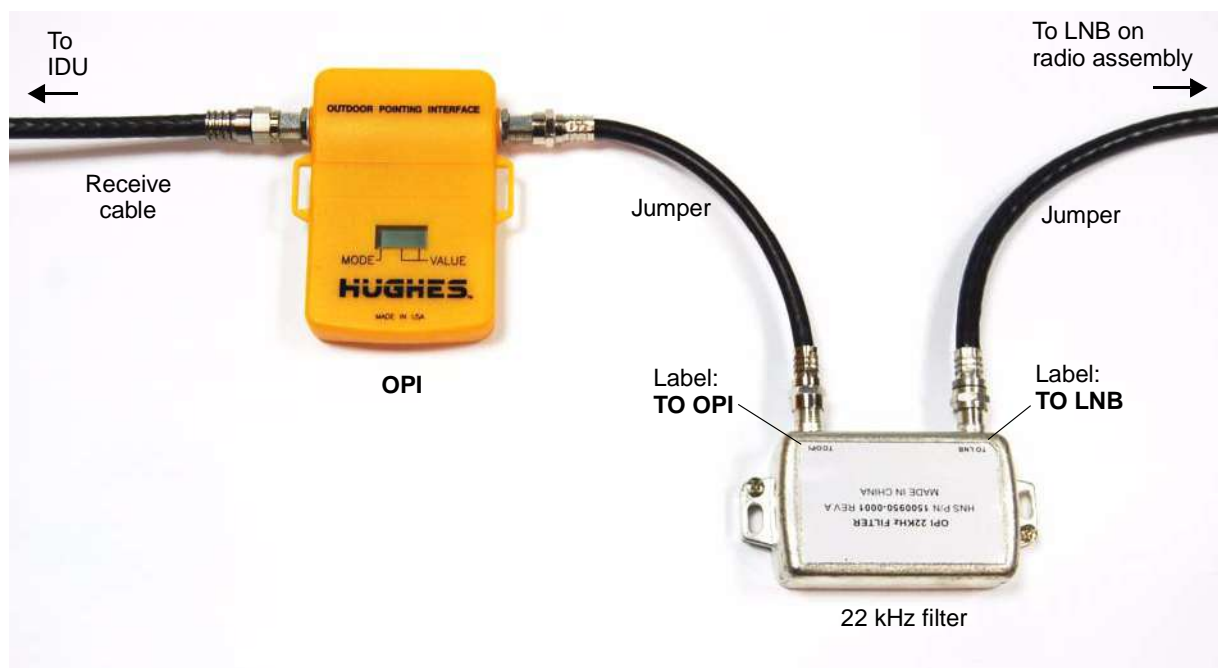

Figure 46: Installing the OPI
4. Use the jumper cables to connect the OPI and filter inline between the IDU and LNB, exactly as shown in Figure 46.